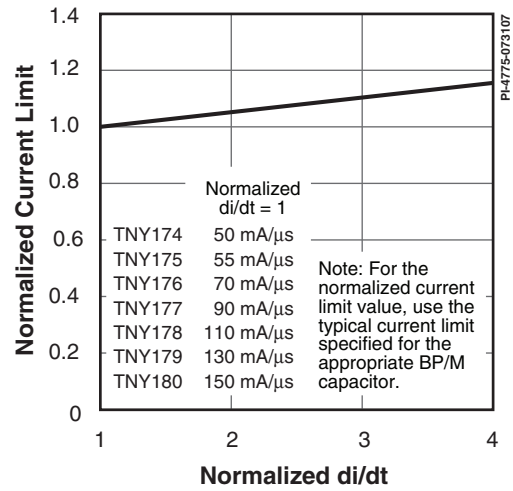

Figure 21. Current Limit vs. di/dt .
- E. For current limit at other di/dt values, refer to Figure 21.